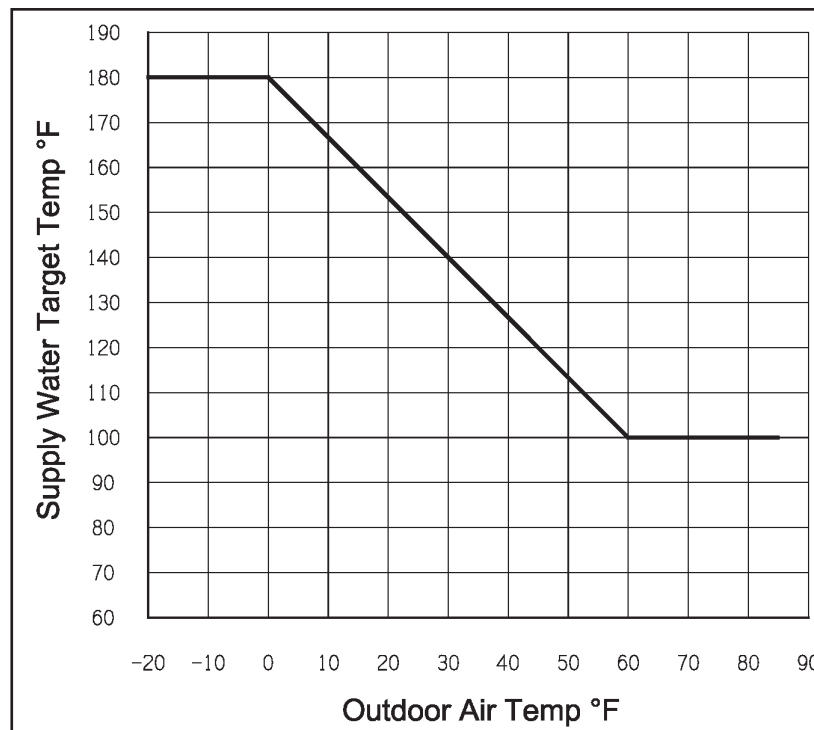

Figure 12.4: Outdoor Reset Curve
- 4) If an outdoor sensor is installed, the boiler will automatically adjust the heating zone set point temperature based on the outdoor reset curve in Figure 12.4. The maximum set point is defined by parameter 4 (factory set to 180°F) when the outdoor temperature is 0°F or below. The minimum set point temperature shown is 100°F when the outdoor temperature is 60°F or above. As the outdoor temperature falls the supply water target temperature increases. For example, if the outdoor air temperature is 30°F, the set point temperature for the supply water is 140°F.
- e) Once the flame stabilization period has ended, the MCBA allows the burner to modulate. The actual firing rate is dependent upon the measured current and recent differences between the set point temperature and the supply temperature. If an outdoor sensor is connected to the control module and the boiler is responding to a call for heat, the set point temperature will be determined by the outdoor reset curve shown in Figure 12.4.